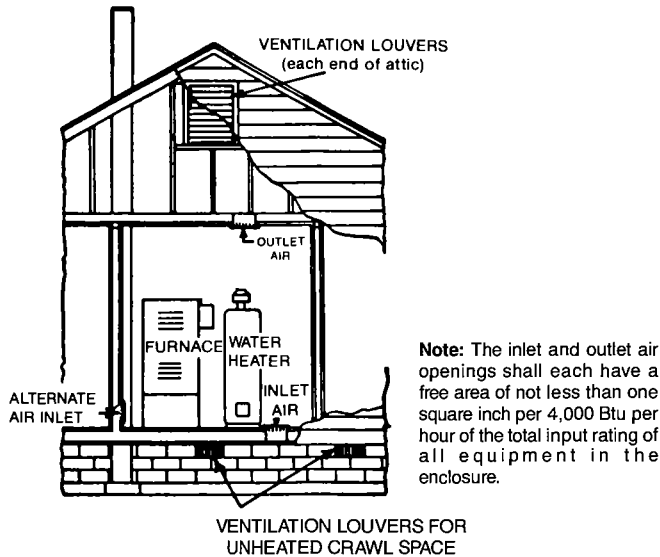

Fig. 2. Equipment Located in Confined Spaces; All Air from Outdoors — Inlet Air from Ventilated Crawl Space and Outlet Air to Ventilated Attic. See 5.3.3-b.
1. When directly communicating with the outdoors, each opening shall have a minimum free area of 1 square inch per 4,000 Btu per hour of total input rating of all equipment in the enclosure. (See Fig. 2.)